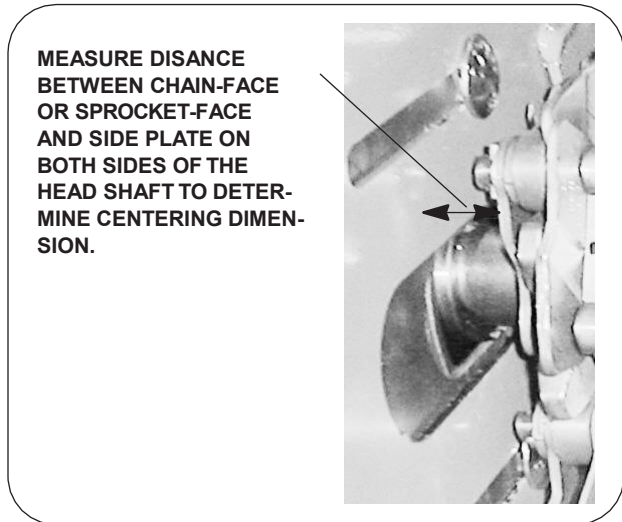

Figure 5. Headshaft Centering Measurement
- Measure the distance between the headshaft sprocket face (or chain face) and the inside of the sidewall on both ends of the shaft to verify that the metal belt is centered in the discharge section (Figure 5). If not, proceed as follows:
- Measure the distance between the chain face (or sprocket face) and the inside of the sidewall (Figure 5). Be sure that the sprockets are centered (distance is equal for both sides).
- Adjust the headshaft so that the chain is equal distant between the chain and the inside of the side plate on each side (Figure 5).